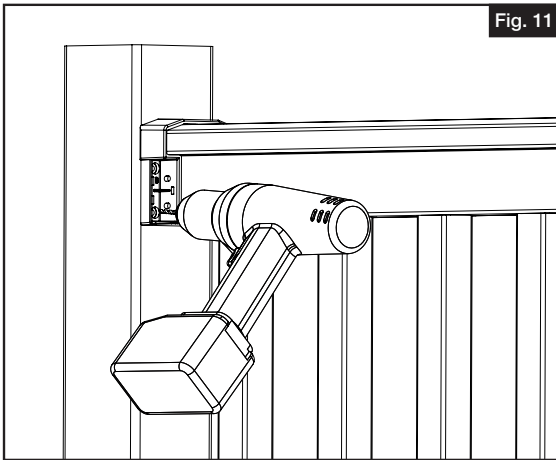

Fig. 11
- i. Make sure rails are fully seated with balusters and level and centered to post sleeve. Then, using $\frac{1}{8}$ " drill bit, pre-drill first top bracket screw hole (Fig. 11). Drill through bracket hole, vinyl post sleeve and vinyl insert and loosely install first #10 x $1\frac{1}{2}$ " screw.
- ii. Repeat pre-drilling process for remaining three screws (Fig. 11).